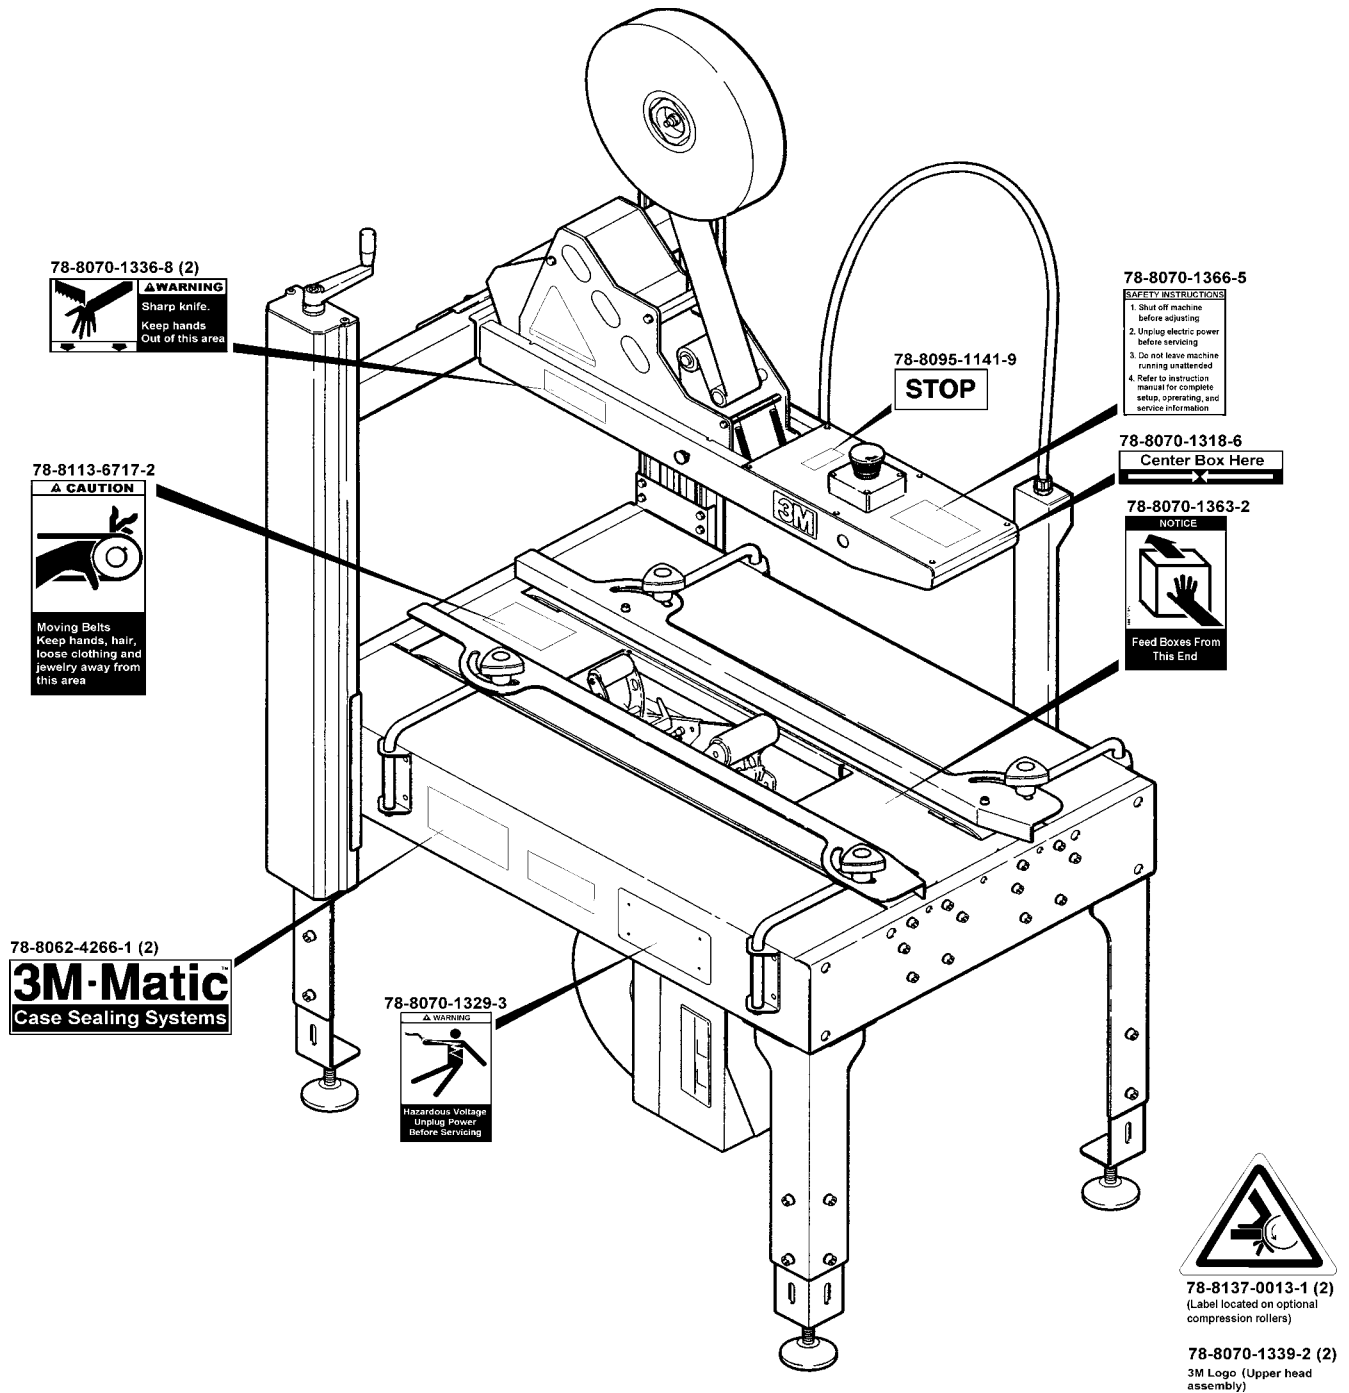

Figure 1-1 – Replacement Labels/3M Part Numbers
**Important** – In the event the following safety labels are damaged or destroyed, **they must be replaced to ensure operator safety**. Replacement part numbers for individual labels are shown in Figures 1-1, or a label kit, part number 78-8133-9619-5, is available that includes all labels used on the machine.